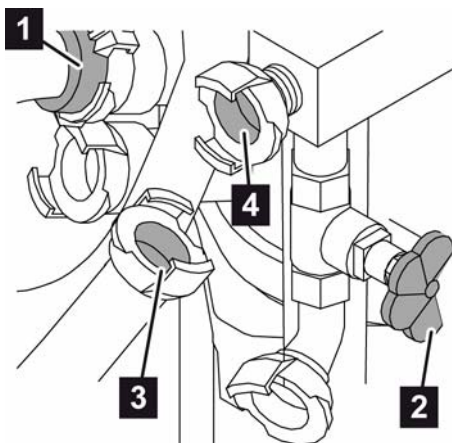

Fig. 52: Water removal
1. Disconnect the water feed from the mixing pipe. To accomplish this, disconnect the hose from the upper water duct (Fig. 52/1) on the mixing pipe.
4. Open the water removal valve (Fig. 52/2).
6. Unclamp the water hose (Fig. 52/3) from the water connection (Fig. 52/4) and empty the hose.